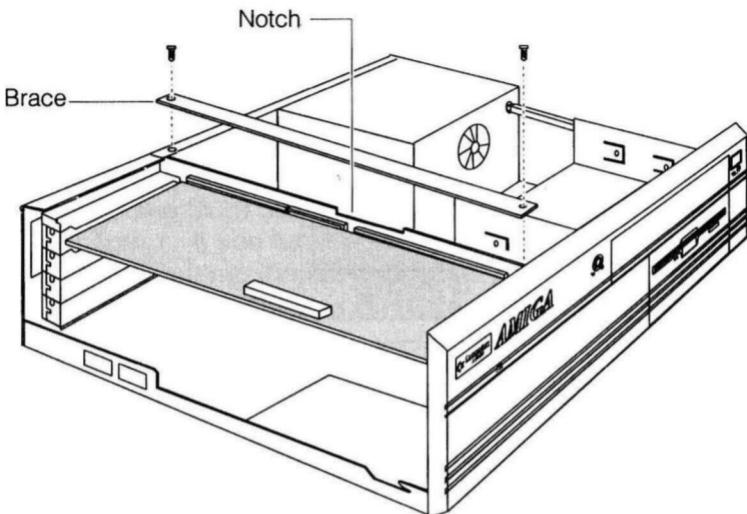

Figure 6. Removing the Brace over the Daughterboard
- a. Remove the brace on top of the daughterboard by removing the screws that attach the brace to the frame of the Amiga, illustrated in Figure 6.